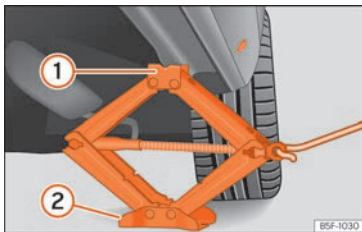

Fig. 39 Cross member: positioning the jack on the vehicle.
- Turn the jack crank handle, located below the strut support point, to raise it until the tab ① » » **Fig. 39** is below the housing provided.
- Align the jack so that tab ① “grips” onto the housing provided on the strut and the mobile base ② is resting on the ground. The base plate ② should fall vertically with respect to the support point ①.